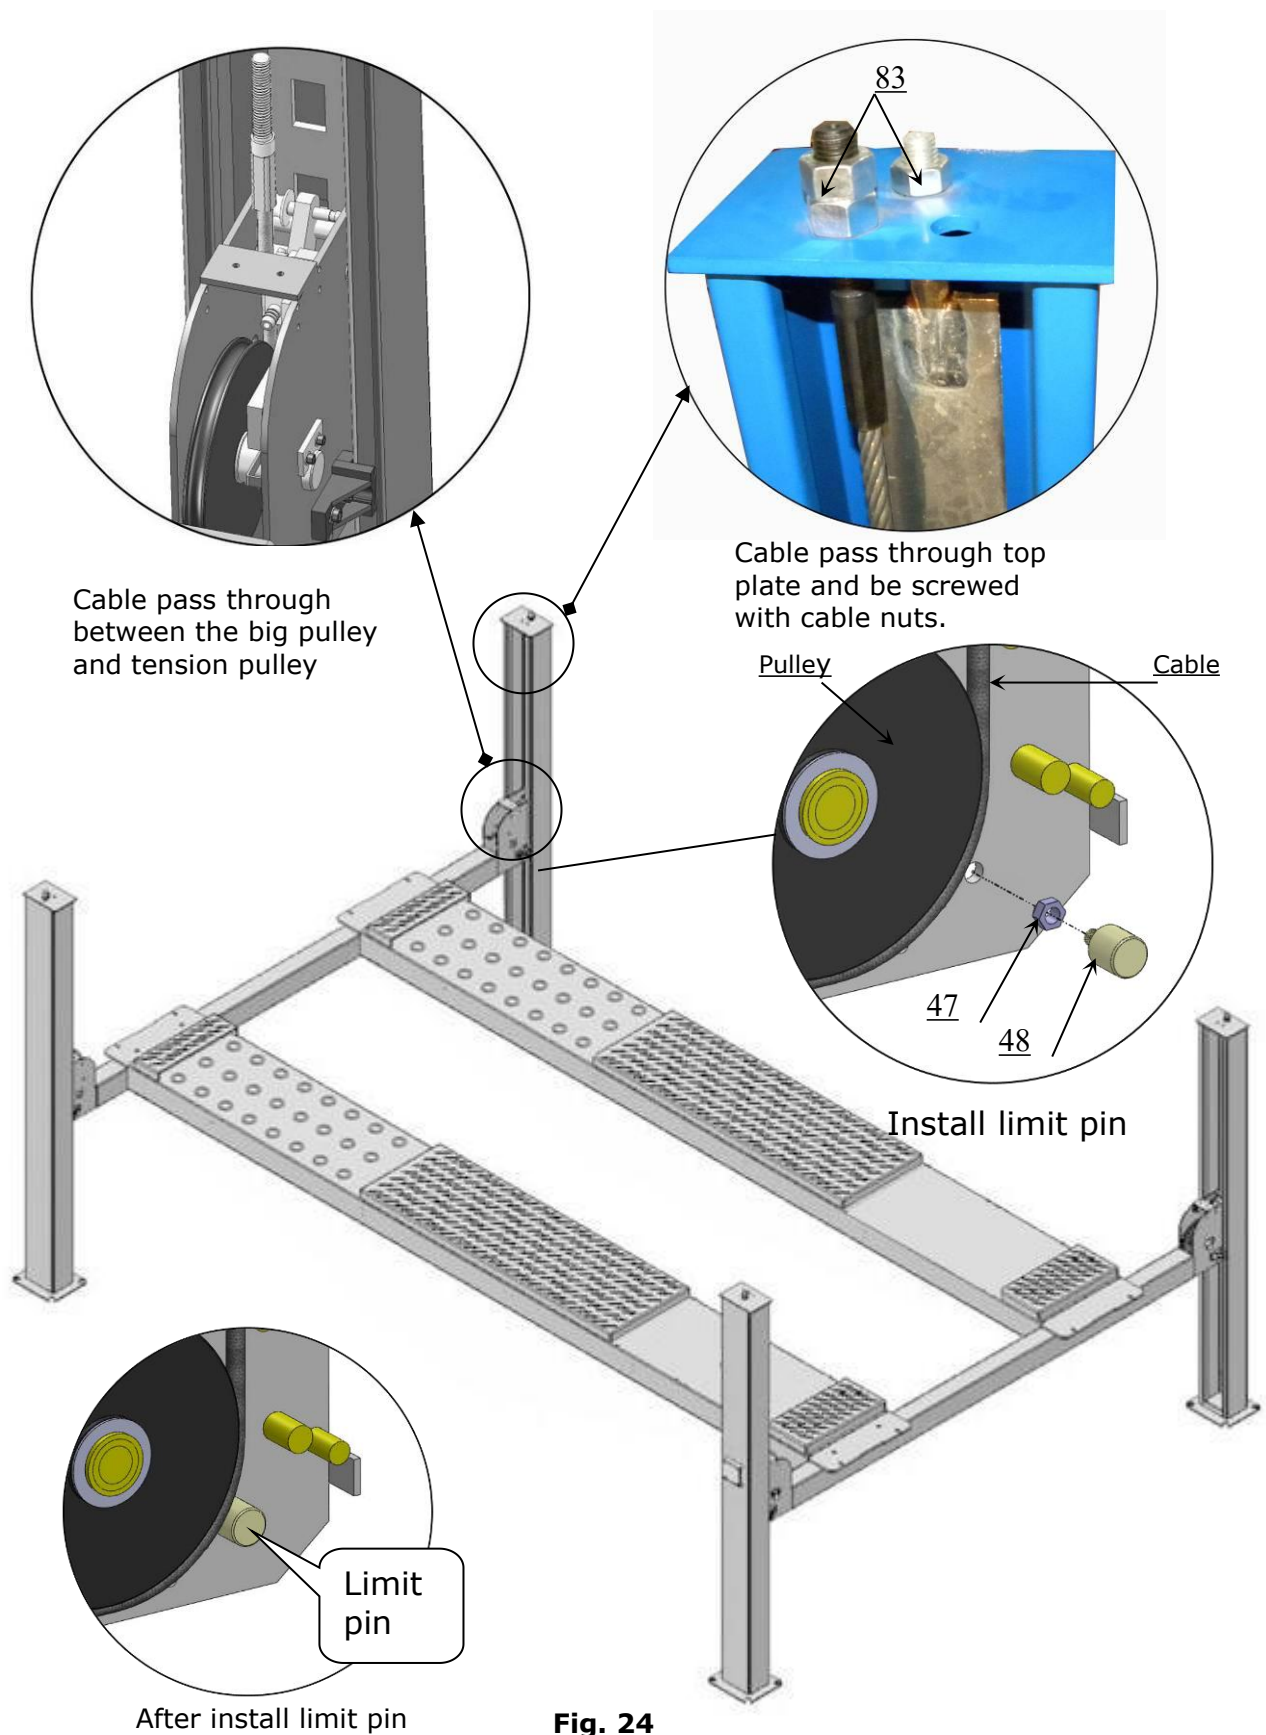

Fig. 24
2. The cable pass through the cross beam to top plate of columns and be screwed with cable nuts (**See Fig. 24**).